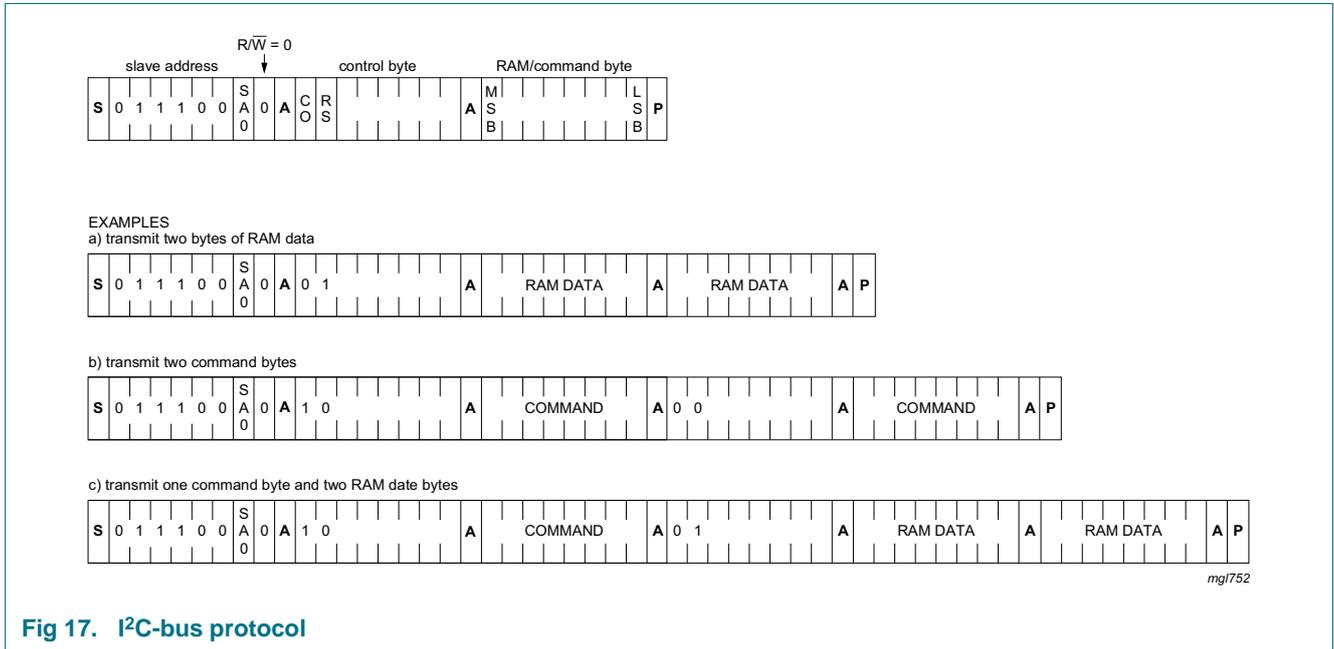

Fig 17. I2C-bus protocol
The I2C-bus protocol is shown in Figure 17. The sequence is initiated with a START condition (S) from the I2C-bus master which is followed by one of the available PCF85134 slave addresses. All PCF85134 with the same SA0 level acknowledge in parallel to the slave address. All PCF85134 with the alternative SA0 level ignore the whole I2C-bus transfer.